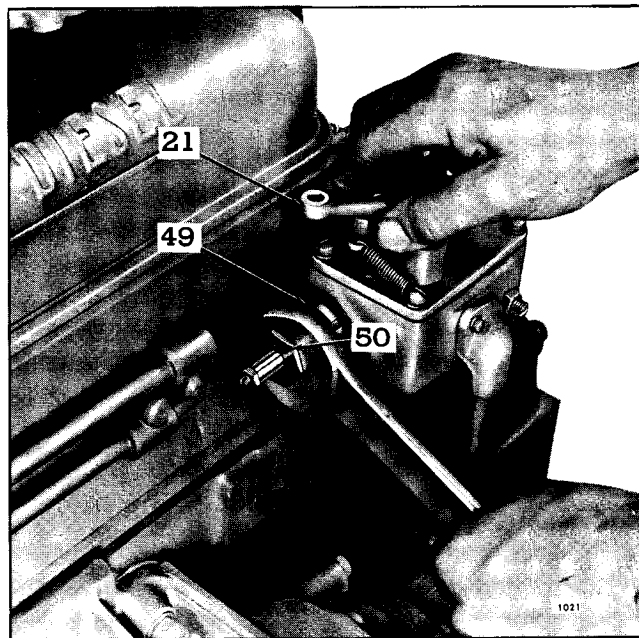

Fig. 5 - Adjusting Maximum No-Load Speed
1. Loosen the lock nut (49), Fig. 5, and back off the high speed spring retainer (50) approximately five turns.
2. With the engine at operating temperature and no-load on the engine, place the control lever (21) in the FULL FUEL position. Turn the high speed spring retainer IN until the engine is operating at the recommended no-load speed.